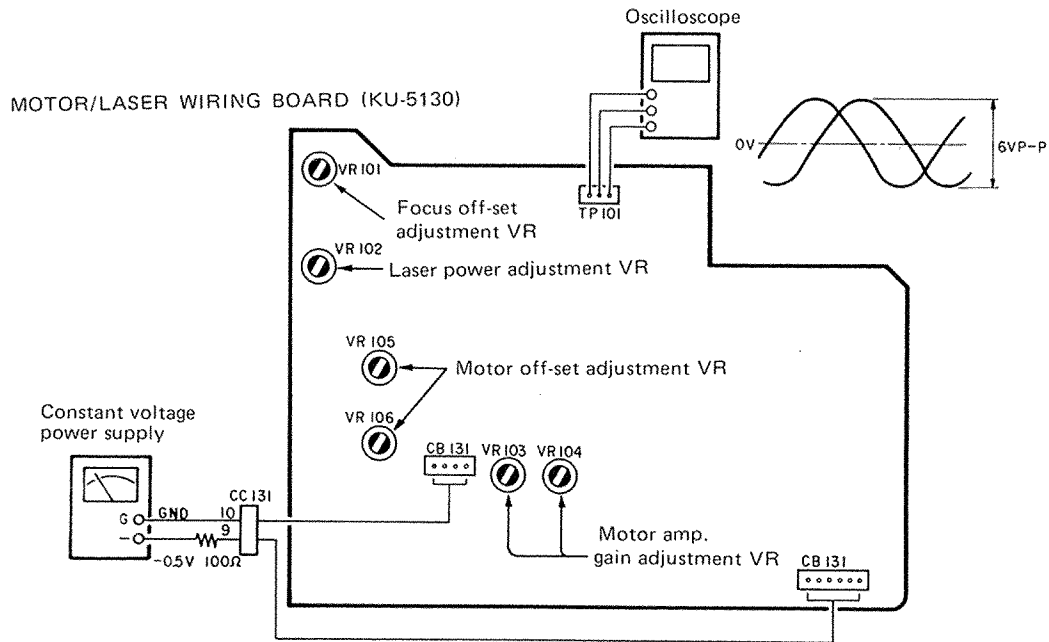

Fig. 19
4. Adjustment of laser power. (Fig. 19, 20)
5. Adjustment of focus amp off-set voltage. (Fig. 19, 23-1)